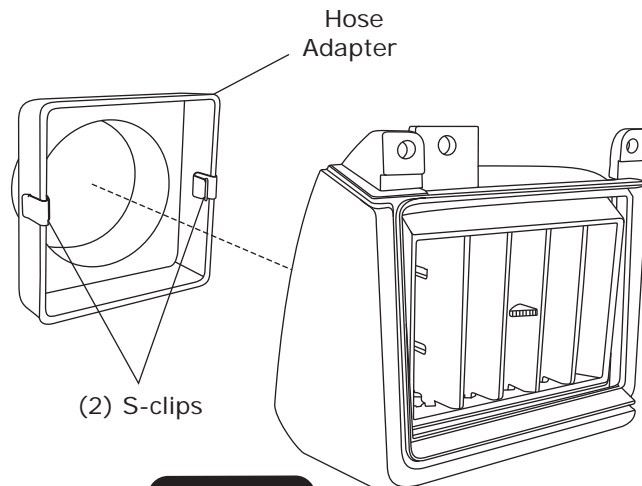

Figure 6
1. Install (2) S-clips on hose adapter as shown in Figure 6, below.
2. Install driver & passenger side hose adapters on OEM louvers (See Figure 6, below).